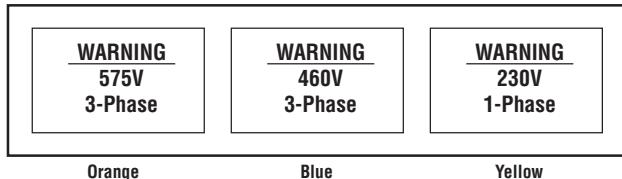

Fig. 1
4. To connect a 575Vac input, remove ONLY the 575V 3-Phase violator label. Connect 12-14awg wire to terminals 1 (L1), 2 (L2) and 3 (L3) (optional). Connect the earth ground to the ground lug on the left side of the enclosure. (Fig. 1)